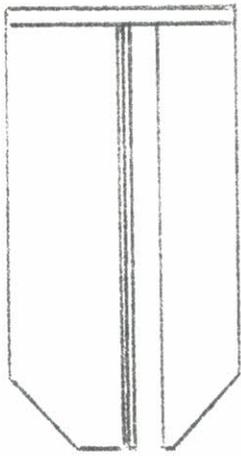

Fig. 6
- d) Encaixar as aletas no disco (Fig. 6)